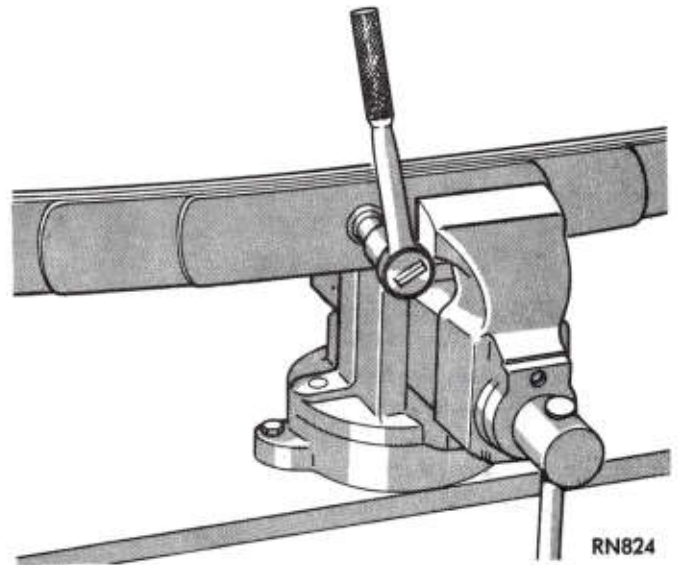

Fig. 11—Disassemble Spring Assembly
- (1) Clamp spring in a vise as shown in Figure 11.
- (2) Insert long drift in center bolt hole and release vise slowly.
- (3) Remove assembly from vise and replace broken leaf.
- (4) Place spring assembly in vise, slowly tighten vise while holding spring leaves in alignment with drift.
- (5) Remove drift and install new center bolt (Fig. 11).
- (6) Install nut, tighten to 15 ft. lbs. (20 N·m) or until center of spring has no gap between leaves (maximum 40 ft. lbs. (54 N·m)). Reinstall alignment clips.